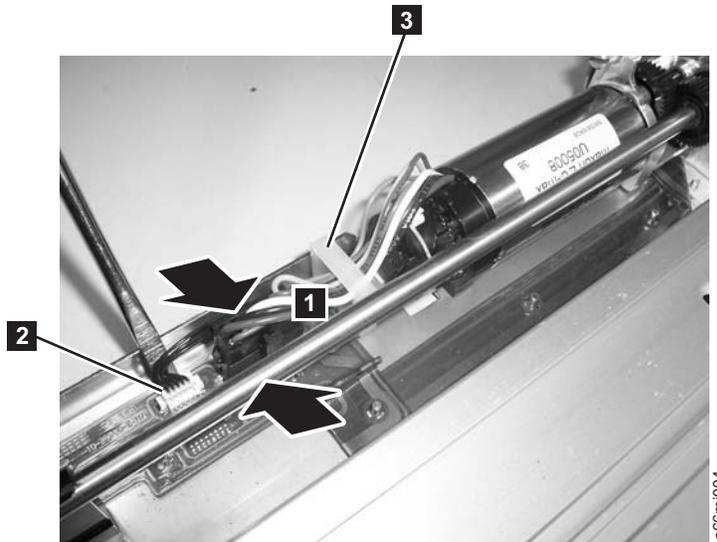

Figure 8-52. Y motor connector
5. See Figure 8-52 on page 8-56. Remove the large black connector.
- a. Pinch the latch (**1** in Figure 8-52 on page 8-56) on the cable connector.
6. Use a small flat blade screw driver to pry up the small white connector ( **2** in Figure 8-52) gently working the screw driver blade along the entire outside edge of the connector.